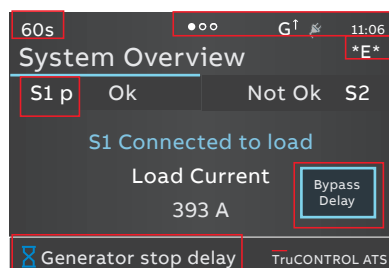

Fig. 4.9 The location of the small icons and the alarms
The small icons in System Overview -pages are, see Fig. 4.9:
**On the lower edge** of the screen you can see the Alarms, see Fig. 4.9 on previous page. Touching the alarm name in bottom bar will open alarm list. It lists all active informations, warnings and alarms.